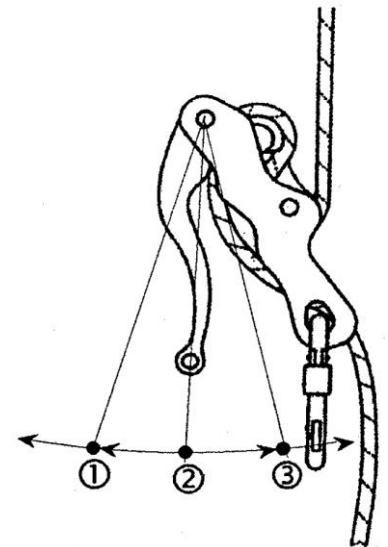

Fig. 4
- Remove Hook and loop fastener retaining strap and remove soft lock on descender. Test the function of the descender with the handle released (position 1, Fig. 4) by pulling upward on the rope (the end with the snap hook) to ensure the brake mechanism is working properly. Perform the same test with the handle squeezed completely (position 3, Fig. 4). Squeeze the handle to the midpoint (position 2, Fig. 4) while again pulling upward on the rope to ensure the rope slides smoothly through the descender in this position. Re-tie the soft lock so that the descender cannot be inadvertently depressed.
- Proper usage of the descender will allow descent at a controlled, safe rate. The maximum speed of descent should not exceed 6.5 ft/sec. (2. m/sec). If the user's weight is in excess of 265 lbs. (120 kg), The maximum speed of descent should not exceed 3.3 ft/sec. (1m/sec.). By increasing pressure on the handle, the user will activate the braking position feature (position 3, Fig. 4) and the descent will be stopped or considerably slowed. Releasing the handle completely (position 1, Fig. 4) will also activate the braking feature. If additional braking is required, before starting to rappel, the free end of the rope must be through the carabiner, vary the angle of the tail of the descent line against the carabiner frame to control the rate of descent to 3.3 ft/sec. (1m/sec.) maximum. Make sure the action of the rope will not unscrew the carabiner's gate. (Fig. 11)
- To rappel, slowly squeeze the handle toward the body of the descender with one hand to the midpoint (position 2, Fig. 4) while the other hand controls the free end of the rope to provide additional braking (tailing). Make a slow controlled descent to the ground. If the need arises where the descent must be stopped, re-tie the soft lock so that the descender cannot be inadvertently depressed.
- Test the function of the descender with the handle released (position 1, Fig. 4) by pulling upward on the rope (the end with the snap hook) to ensure the brake mechanism is working properly. Perform the same test with the handle squeezed completely (position 3, Fig. 4). Squeeze the handle to the midpoint (position 2, Fig. 4) while again pulling upward on the rope to ensure the rope slides smoothly through the descender in this position.
- Proper usage of the descender will allow descent at a controlled, safe rate. The maximum speed of descent should not exceed 6.5 ft/sec. (2. m/sec). If the user’s weight is in excess of 265 lbs. (120 kg), the maximum speed of descent should not exceed 3.3 ft/sec. (1m/sec.). By increasing pressure on the handle, the user will activate the braking position feature (position 3, Fig. 4) and the descent will be stopped or considerably slowed. Releasing the handle completely (position 1, Fig. 4) will also activate the braking feature. If additional braking is required, before starting to rappel, the free end of the rope must be through the carabiner, vary the angle of the tail of the descent line against the carabiner frame to control the rate of descent to 3.3 ft/sec. (1m/sec.) maximum. Make sure the action of the rope will not unscrew the carabiner’s gate (Fig. 11).
- To rappel, slowly squeeze the handle toward the body of the descender with one hand to the midpoint (position 2, Fig. 4) while the other hand controls the free end of the rope to provide additional braking (tailing). Make a slow controlled descent to the ground. If the need arises where the descent must be stopped, re-tie the soft lock so that the descender cannot be inadvertently depressed
- Inspect for proper operation of both the brake mechanism and the descent handle mechanism. Also make sure that the rope slides smoothly through the unit when the handle is depressed to the midpoint (position 2, Fig.4).